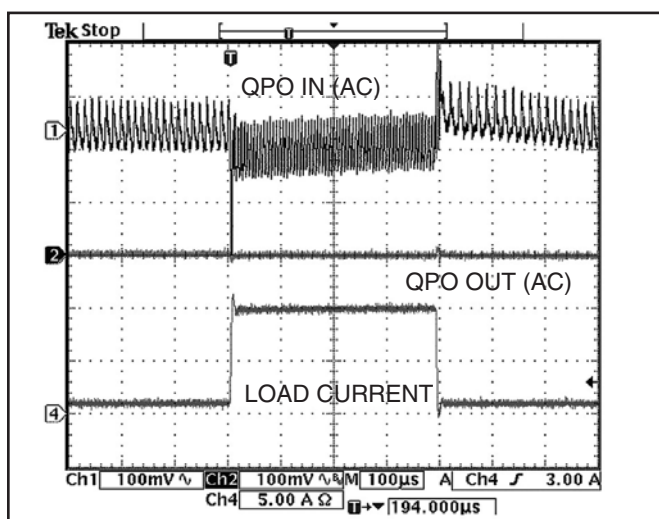
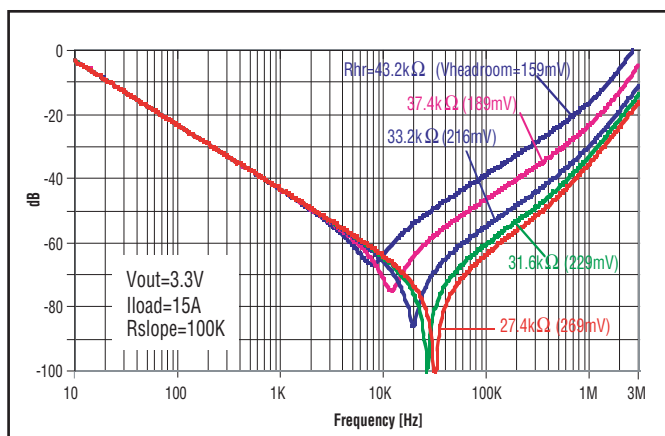

Figure 2 – Typical performance with a 3.3 Volt converter, showing 1 to 10 A load step.
Figure 7 – Attenuation curves without slope adjust.
The QPO-2 output ripple attenuator SiP uses active filtering to reduce supply output ripple and noise (PARD) by over 30 dB from 1 kHz to 500 kHz. The QPO-2 is biased through the VAUX input and filters an input voltage range of 0.3 Vdc to 5.5 Vdc while supporting load currents as high as 20 A. The VAUX input range is 7 V to 12 V with a minimum required difference between VAUX and QPO OUT of 7 V. Output regulation is maintained by using either the remote sense or the trim adjustment of the power supply. The product can be used in an open loop configuration when ripple and noise reduction are the main objective and load regulation is not as critical. The QPO-2 architecture improves transient response and ensures quiet point-of-load regulation when used with most switching power supplies. The performance waveform in figure 2 is an example of the ripple reduction and transient load improvement the QPO-2 can provide using a 3.3V brick style converter.
The QPO-2's closed loop architecture greatly improves load transient response of the converter while ensuring steady-state precise point of load voltage regulation. The headroom setting of the filter dramatically reduces the capacitance needed at the converter output to provide the equivalent transient performance and ripple reduction. Figure 2 demonstrates how the product can be an ideal solution for noise sensitive applications providing ripple and noise reduction and improved output regulation with high current transient load demands.
Figure 7 shows the relationship of the headroom voltage versus attenuation of the QPO-2 for a 3.3 volt output with a 15 amp load. This relationship is relatively constant over the full output voltage rating of the product so this graph can be used for the 0.3 V to 5.5 V range when selecting the headroom voltage. The value of headroom resistor will be dependent on desired output and headroom voltages. The selection of the final headroom voltage should be based on the maximum expected ripple, desired attenuation, based on the curves in Figure 7, and the transient response time of the converter. Formulas for SC current setting resistor, R_{SC} and the R_{CP} clamp setting resistor, are provided in their respective sections. The headroom range indicated in Figure 7 shows that increasing the headroom voltage will increase the attenuation, up to a point of diminishing returns, over the range of 10 kHz to over 1 Mhz. With an external 25 μF
To ensure sufficient headroom during transient load changes, a greater headroom voltage than what would normally be set based on maximum ripple should be considered. To provide margin to cover the instantaneous drop in the converter output and the line drops, additional headroom will be needed. In the example shown in Figure 2 an additional 75 mV was included with the headroom voltage value selected from the graph in Figure 7 to cover the instantaneous drop in the supply output during the 10 Amp step as explained below.
In Figure 2, a maximum load of 10 Amps allowed for the R_{HR} value to be calculated to provide 375 mV of headroom to avoid exceeding 4 Watts. In this example, based on the attenuation graph in Figure 7, 300 mV of headroom is the point of diminishing returns so the maximum attenuation would be achieved at the fundamental ripple frequency. To stay within the dynamic range required by the active loop during a transient, a total of 375 mV was used in the formula to determine the R_{HR} resistor value. The peak detector will dynamically add 30 mV (derived from the 60 mV peak to peak input ripple) to the static headroom setting providing the total dynamic headroom of typically 405 mV with the detector enabled.
- No slope adjust, no peak detect, fixed headroom, attenuation vs headroom graph in Figure 7 apply